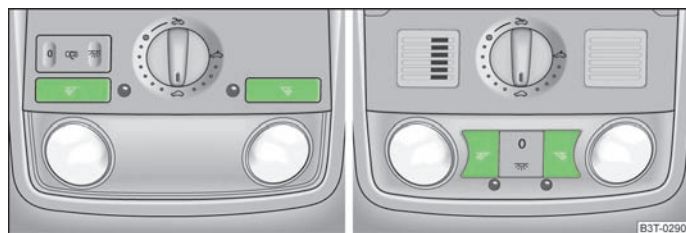

Fig. 40 Reading lights
- Press switch  » Fig. 40 to switch the reading lights on or off.